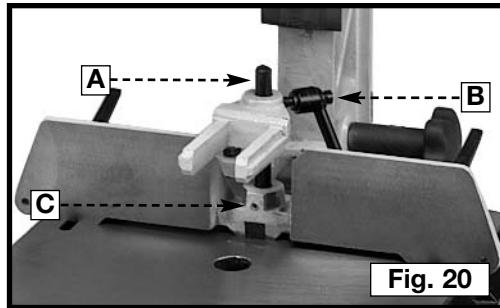

Fig. 20
9. Loosen the holdown knob (B) Fig. 20 and remove the hold-down. Loosen the set screw (C) and removed holdown rod (A) and replace with the extended hold-down rod. Tighten the set screw (C). Place the hold-down (B) on the hold-down rod and tighten the hold-down handle (B).